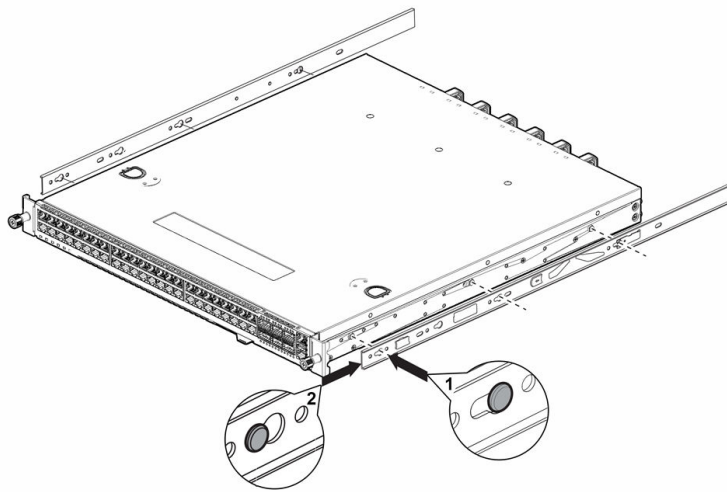

Figure 7: Attaching a Mounting Bracket to One Side of the Switch Housing
2. Using the provided mounting ear screws, attach each of the mounting ears using the holes exposed in the previous step. Ensure that the mounting ears are flush with the faceplate of the switch. See Figure 7.
4. Attach a mounting bracket to each side of the switch housing, using the screws provided. Ensure that the blue tab is close to the mounting ear and away from the switch. See Figure 7.